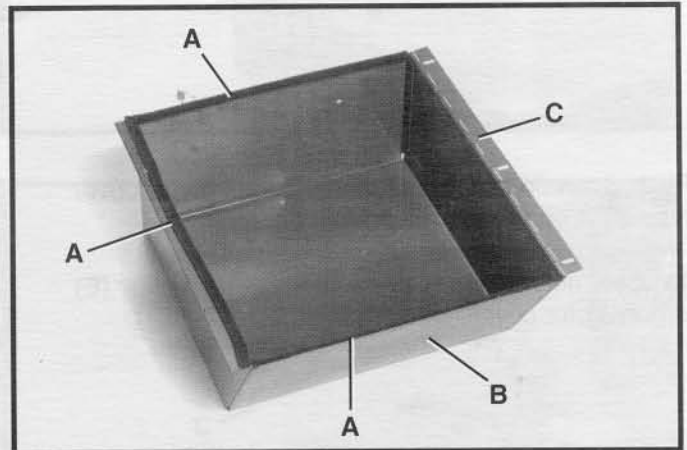

Fig. 31
1. Remove the protective paper from the adhesive gasket material supplied with the machine and apply gasket (A) Fig. 31, to three sides of the back of the motor cover (B), as shown. **NOTE:** Do not apply gasket to the hinged side (C) of the motor cover (B).